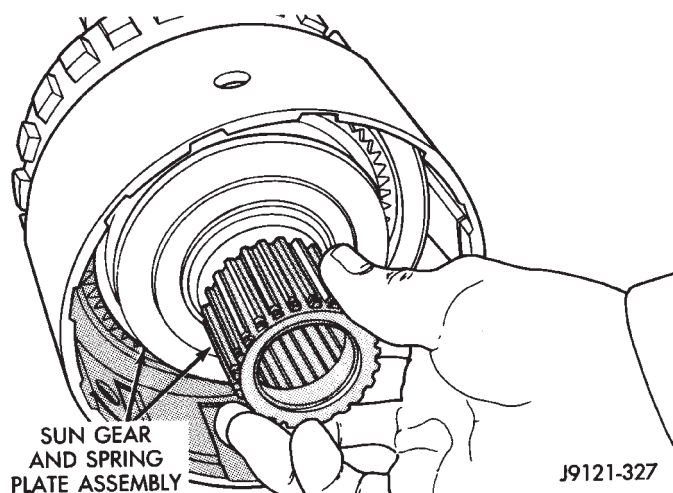

Fig. 46 Sun Gear Installation
(15) Install assembled sun gear, spring plate and thrust bearing (Fig. 46). Be sure sun gear and thrust bearing are fully seated before proceeding.